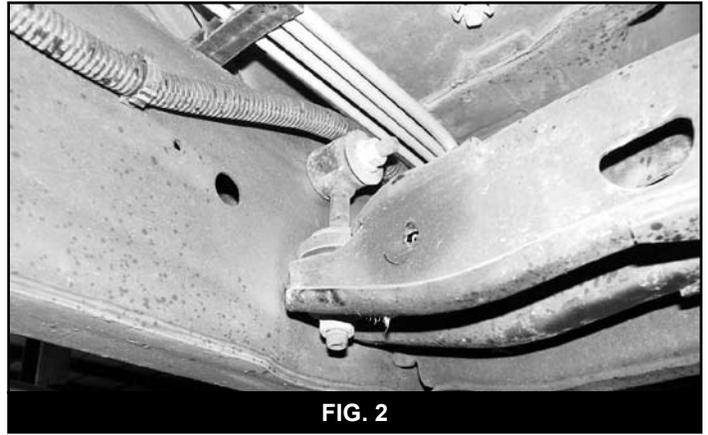

FIG. 2
6. Mark the torsion bars for driver's side (DS) front and passenger side (PS) front to ensure that they are installed as they were removed. Remove the torsion bars.
9. Remove the hardware holding the torsion bar crossmember to the frame. On 84-94 models there are two bolts mounting the crossmember to the inside of the frame on each side. On 95-04 models, remove the nut and stem bushings from the link (Fig 2). Retain